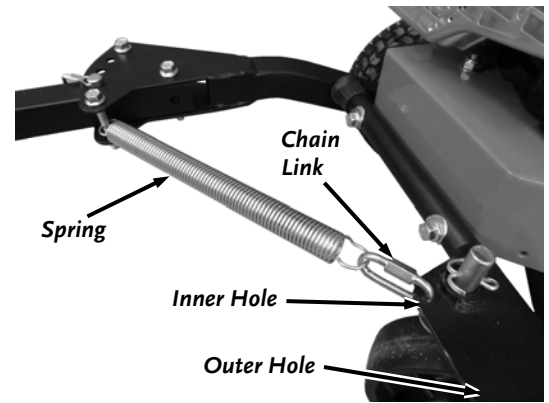

Figure 43
1. Loosen the Chain Link using a 7/16" Wrench and remove the Chain Link from the Frame (**Figure 43**).